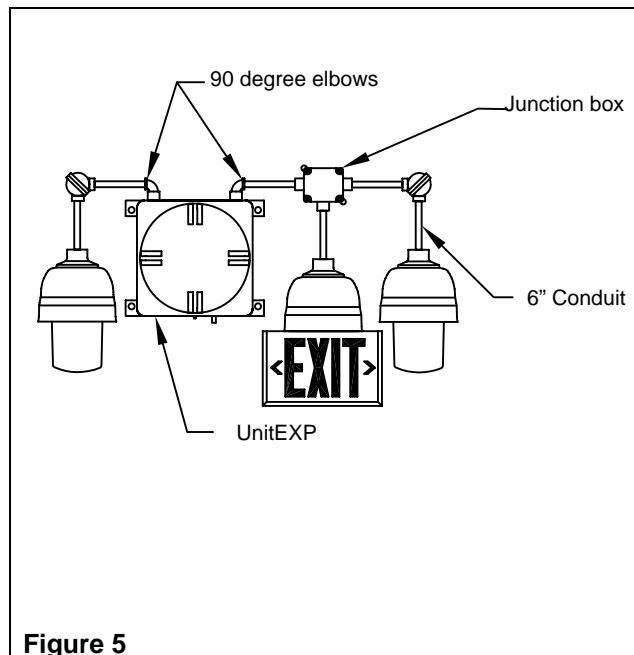

Figure 5
8. Remove junction box cover (see fig. 5). Remove conduit plugs from inside.